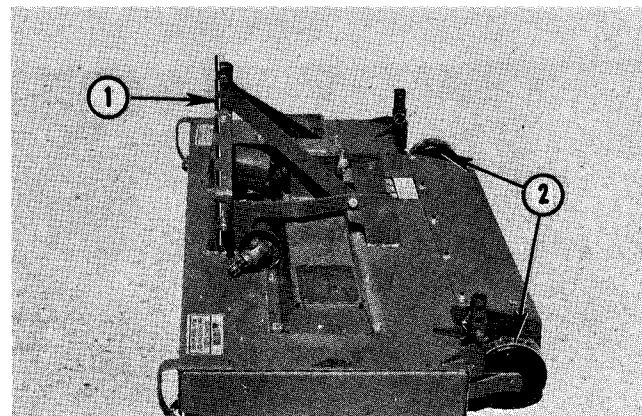

Fig. 57 — Attaching Mower
1. Place gauge wheels in full up position and 2×4 edgewise under front edge to level mower, Fig. 57. This places mower in level position and front part of "A" frame in vertical position as viewed from the side, Fig. 57.